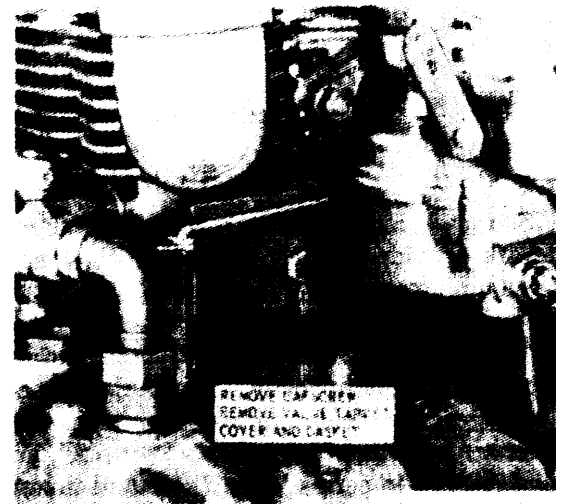

Figure 31. Valve tappet cover, removal and installation
a. Valve Tappet Cover Removal, Refer to figure 31 and remove the valve tappet cover and gasket.
c. *Valve Tappet Cover Installation.* Refer to figure 31 and install valve tappet cover and gasket.